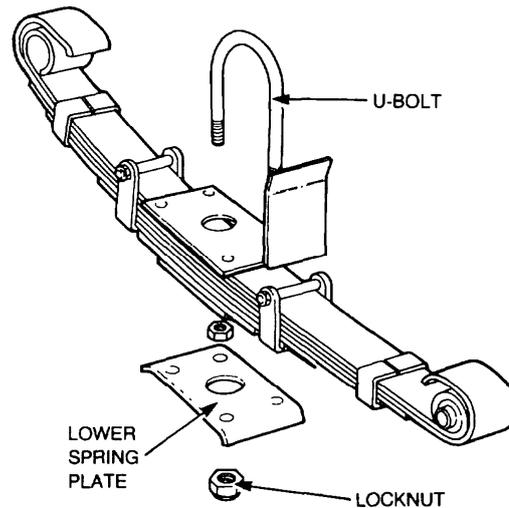

Figure 162 U-bolts and Spring Plate Removal
- f. Remove the locknuts from the U-bolts securing the spring to the axle and then remove the lower spring plate (Figure 162). Discard the locknuts.